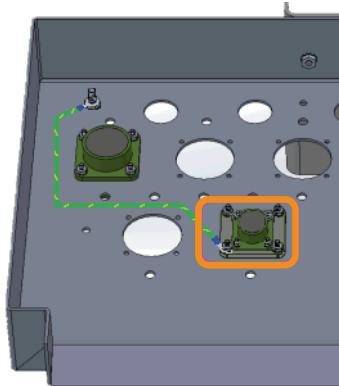

Figure 1 Install Ring Terminal
- Step 1. Install the adapter plate in the bottom of the cabinet in the rightmost hole in the front row. See *Figure 1*.
- Step 2. Install the 8-pin (size 12) voltage input receptacle harness in the adapter plate. See *Figure 1*.
- Step 3. Install the smaller ring terminal of the green/yellow ground wire and the two drain wires to the last adapter screw and secure them with the last nut. See *Figure 1*.
Step 4. Use the existing nut to connect the larger ring terminal of the green/yellow ground wire to the ground stud. See *Figure 1*.